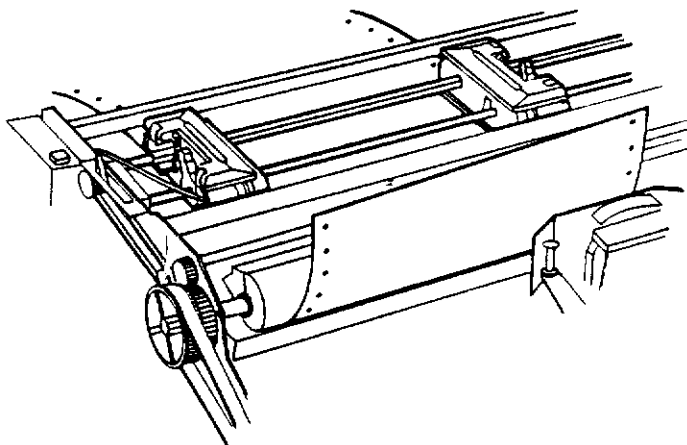
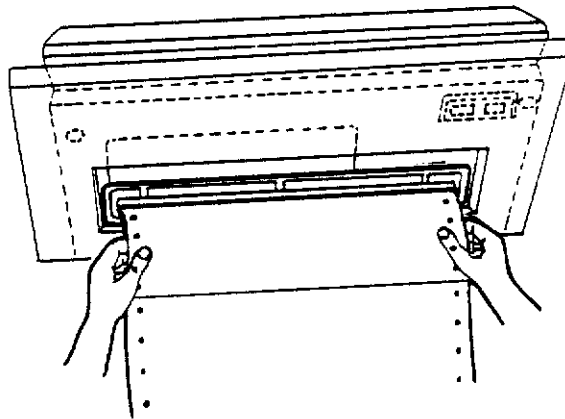

Figure 2-13. Rolling the Paper Under the Platen.
Figure 2-16. Bottom Paper Opening.
8. The paper should now be pointing toward the bottom of the platen. Turn the platen knob until the paper comes up far enough to reach back to the top of the tractor. See Figure 2-13.
3. Feed the paper in through the bottom entry, shown in figure 2-16. It should come up right in front of the platen as shown in figure 2-13, without rolling it through the platen.